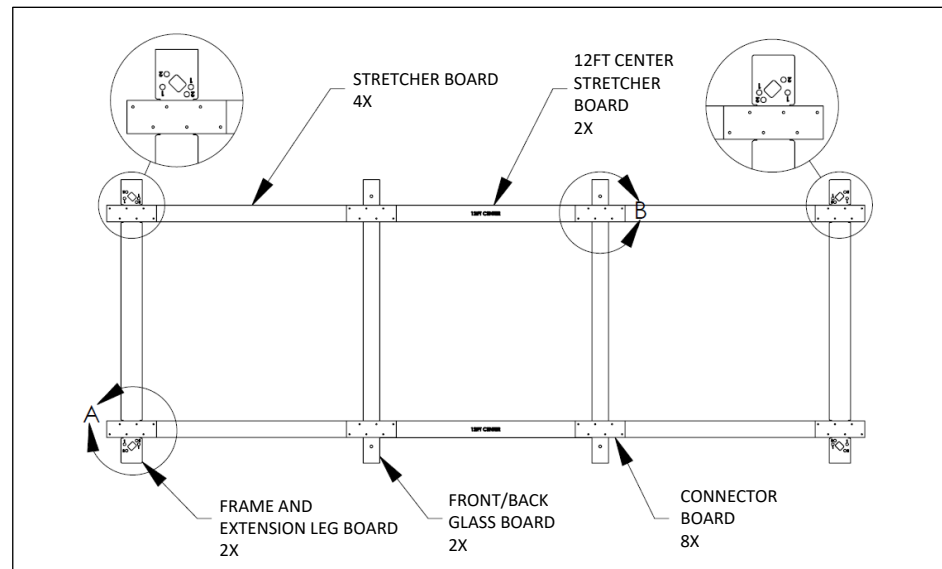

FIG A1 – TEMPLATE COMPONENTS
1. Layout template pieces as shown in Fig. A1. Install dowels.